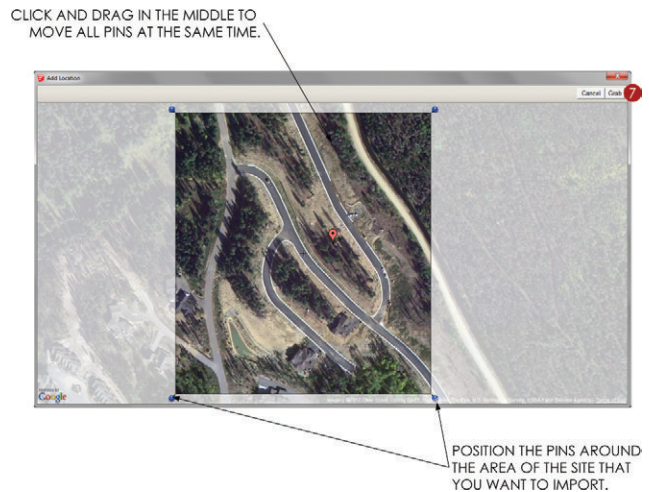

Figure 15.5 Choose a precise site by adjusting pins within the Add Location window.
6. Select the site by repositioning the pins as shown in Figure 15.5. Typically, you will select the desired site plus any surrounding context that will be visible and potentially influence your design. Not to worry, you can easily add more terrain if you decide that you want more of the site in the future.